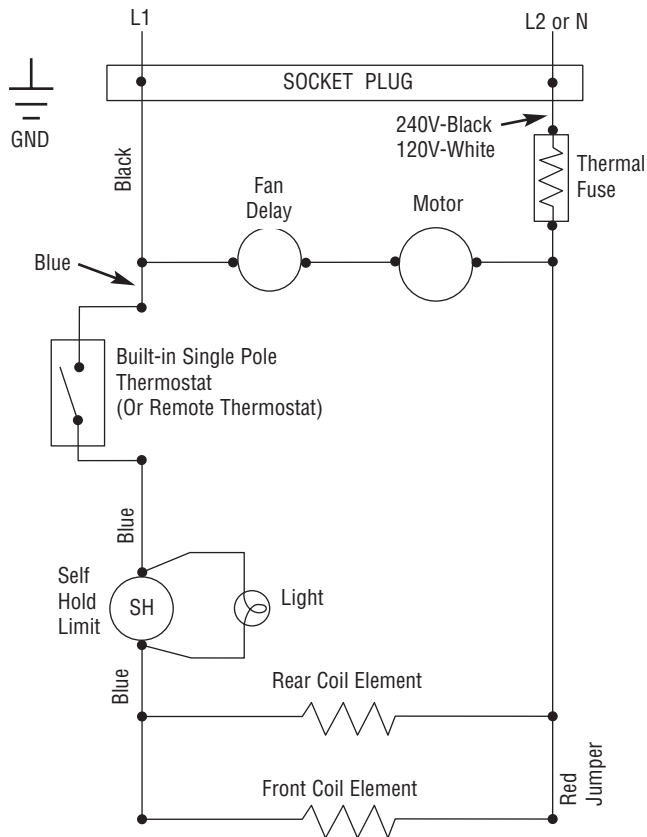

Figure 2 - Wiring With Internal Heater Mounted Thermostat (For lower wattage rating, remove red jumper)
5. Make wiring connection, attaching field wiring to two (2) black pigtail leads for 240/208V model, or to black and white pigtail leads for 120V model with wirenuts (provided). Connect field ground lead to ground pigtail with wirenut (provided). See Figure 2.